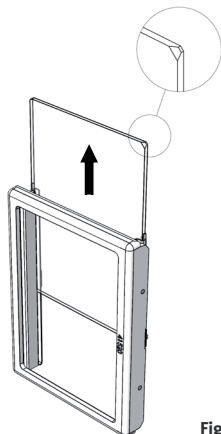

Figure 47
- The middle glass pane can then be removed upwards (Figure 47).